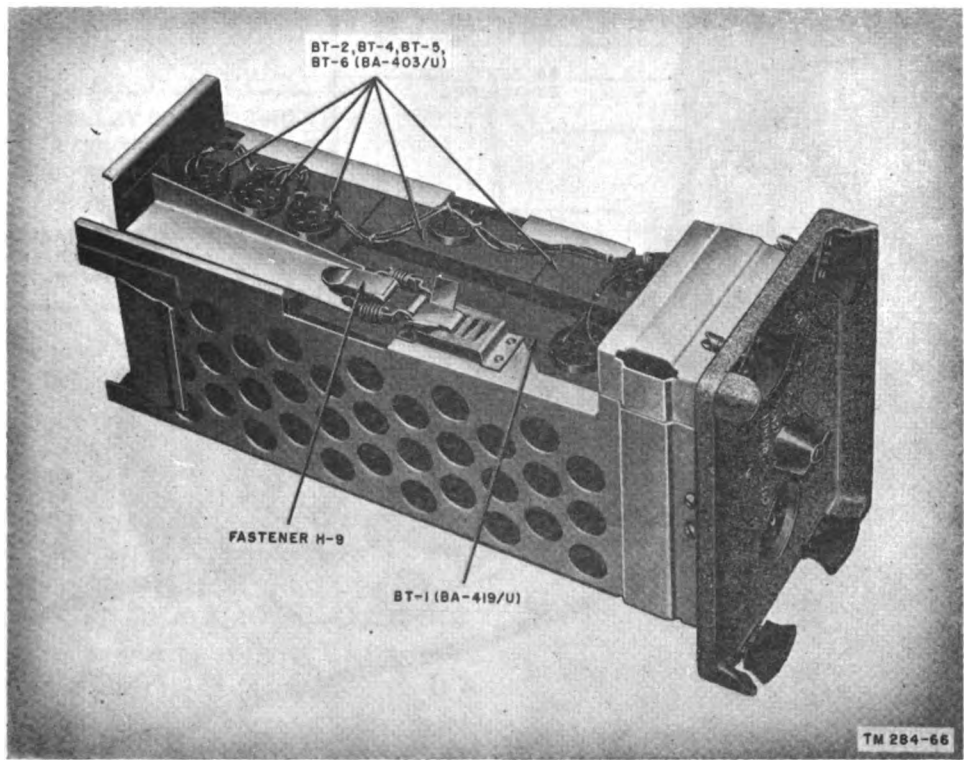

Figure 61. Case CY-590/GRC, case removed, batteries installed.
c. Install five 1.5-volt batteries (Battery BA-403/U) and one 90-volt battery (Battery BA-419/U) in the case. Connect the batteries as indicated in figures 61 and 65. Replace the battery tray in the case.